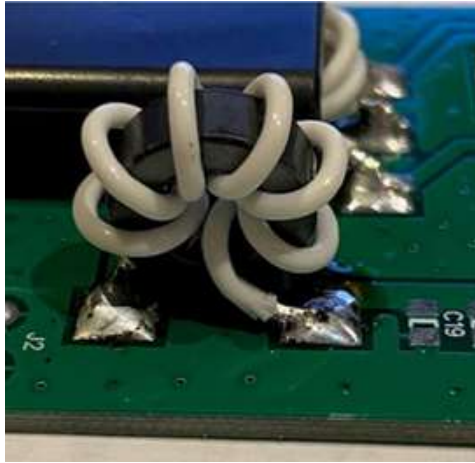

Figure 23. Finished L2 Choke Mounted On The PCB.
- v. At the finish of the 7 turns, leave $\frac{1}{2}$ " of wire, and strip that back $\frac{1}{4}$ ". See Figure 23.